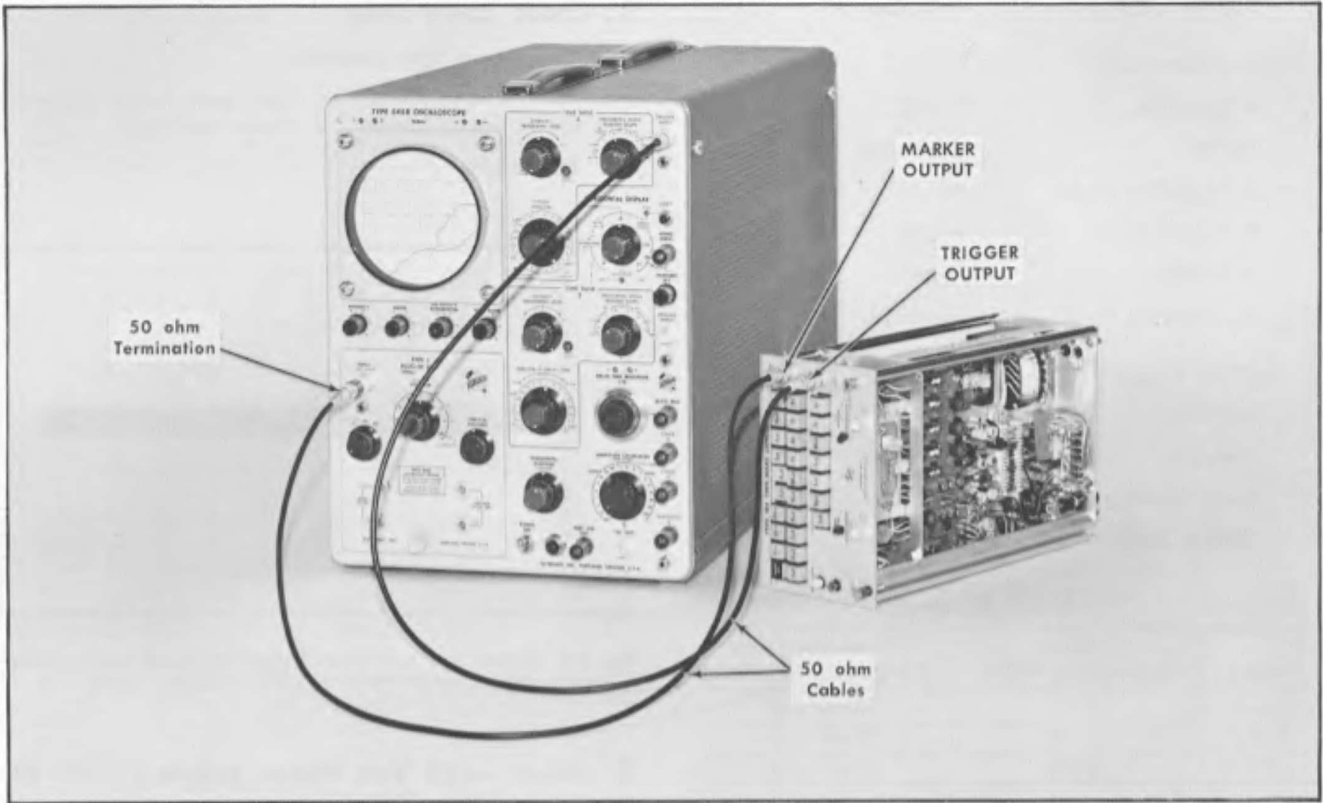

Fig. 6-6. Checking and adjusting .1 μ S and .5 μ S time-markers. Step 4.
- Test equipment setup is shown in Fig. 6-6.